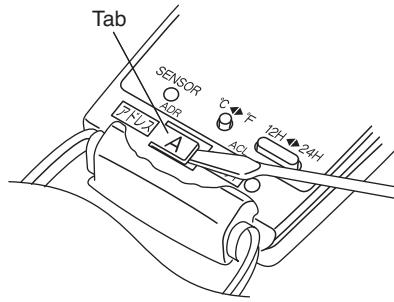

Fig. 37
- (1) Switch on the power source.
- (2) Break the address-setting tab marked "A" on the second remote controller to change the address (Fig. 37). When the tab is removed, the address is automatically set to B (Fig. 38).
- (3) Press and hold the remote controller HIGH POWER button and 1HR. TIMER button. Then, press and hold the ACL (Reset) button with a pointed object such as the tip of a pen. After 5 seconds, release the ACL button first, then release the HIGH POWER and 1HR. TIMER buttons. "oP-1" (Test Run) appears, blinking in the remote controller clock display area.